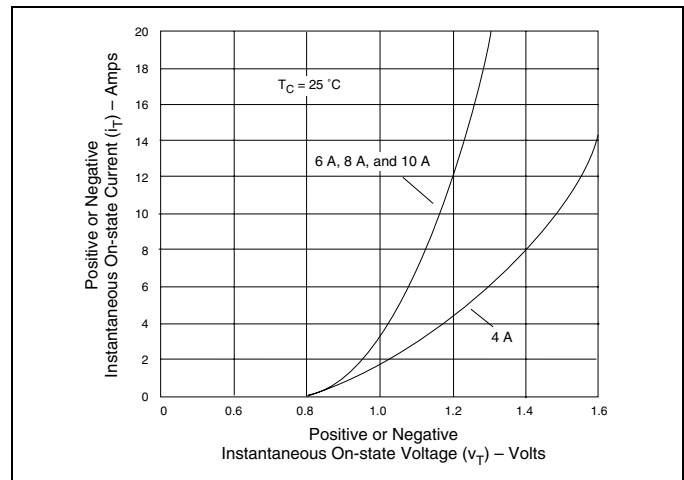
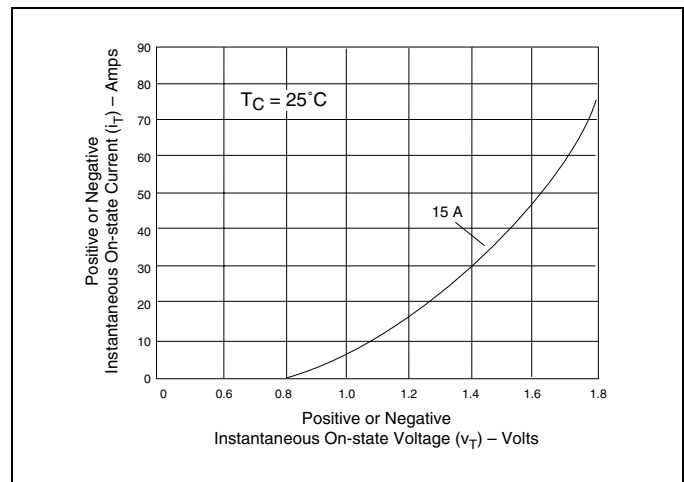

Figure E3.4 On-state Current versus On-state Voltage (Typical) (4 A to 10 A)
Figure E3.5 On-state Current versus On-state Voltage (Typical) (15 A)
- See Figure E3.4 and Figure E3.5 for  $i_T$  versus  $v_T$ .